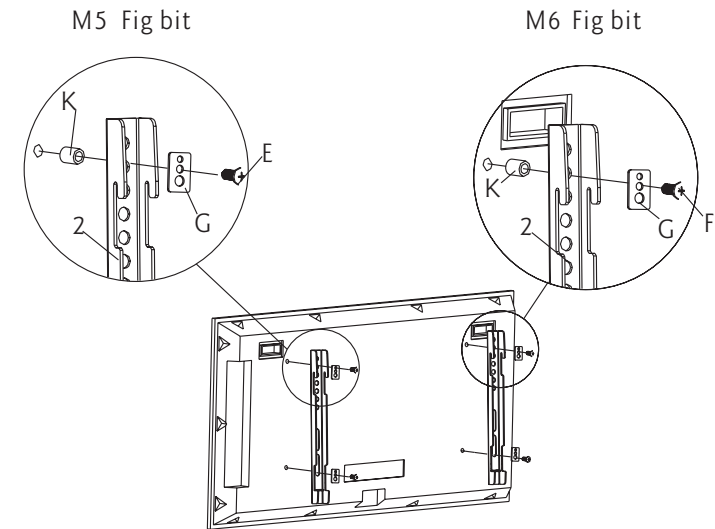

Fig 1b
2. Some displays have curved backs with recessed mounting lands (Fig.a). It will require the use of spacer. For this display, install a spacer (K) between display and the bracket. As shown in Fig 1b.